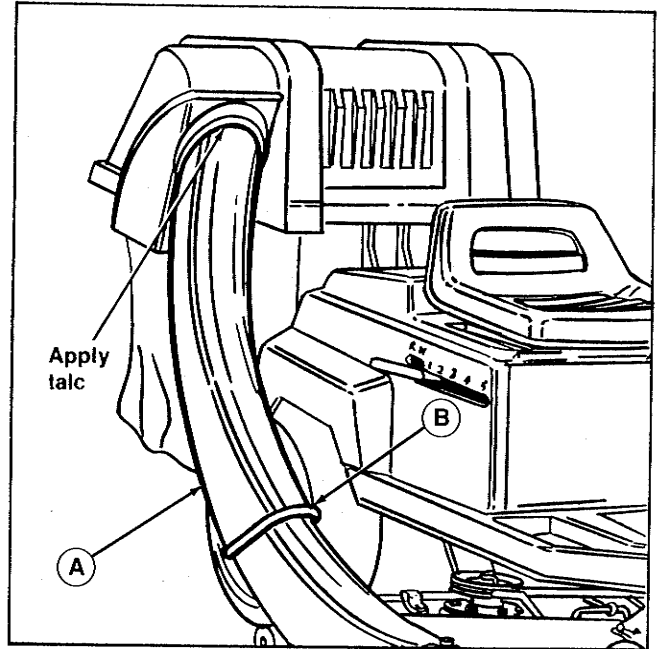

Figure 22.
30. Apply dry talc powder to rubber seal at cover opening. Install tube (A, figure 22) as far as possible into opening to clear adapter and install over adapter.